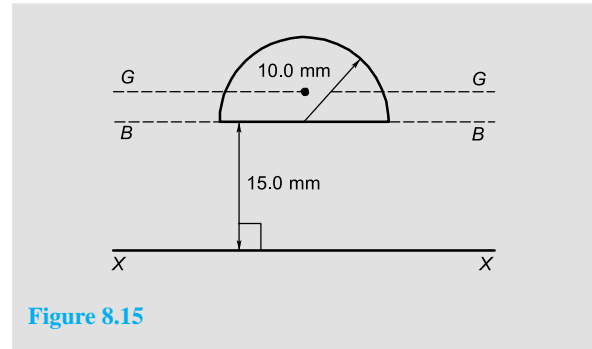

Figure 8.15
**Problem 11.** Determine the second moment of area and radius of gyration for the semicircle shown in Figure 8.15 about axis XX.